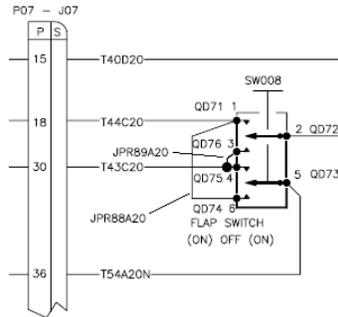

Figure 31-12 Partial Schematic of Flap Switch Circuit
5. Tag and remove the six wires from the back of the switch by gently pull on the quick connect terminals. Refer to Figure 31-12 for wire numbers for wires connecting to the flap switch.